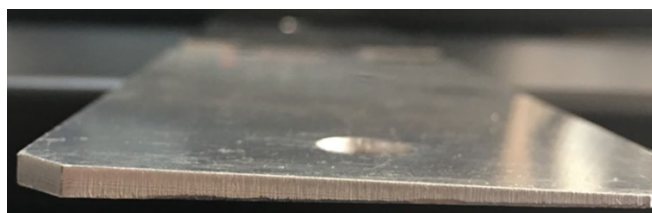

Figure 3 - 1-3mm chamfered shim
- f) Using a True RMS multimeter monitor the mVAC between TP11 & TP12, for a new wheel sensor the reading should be between 27 – 29mV, if adjustment is required make a minor adjustment to the position of the internal wheel sensor, if this doesn't work insert a chamfered 1-3mm or 1-4mm shim (see figure 3) between the mounting bracket and base of the INNER wheel sensor, angle the wheel sensor away from the railhead to increase voltage or toward to reduce. The external wheel sensor requires NO adjustment